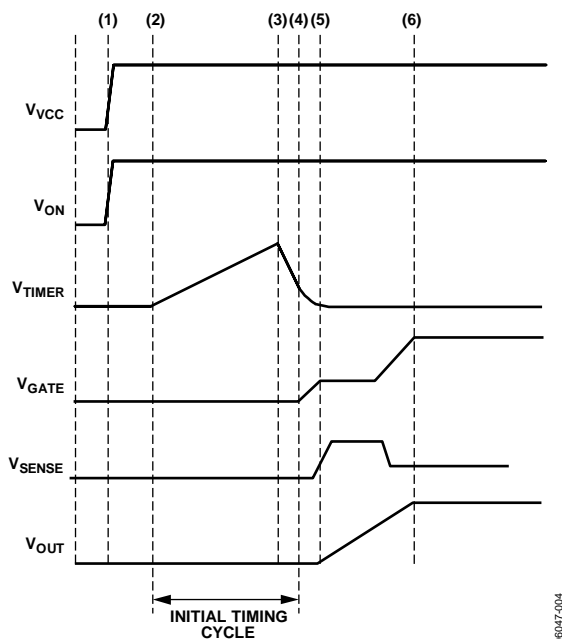

Figure 32. Startup (ON Asserts as Power Is Applied)
When VCC is first connected to the backplane supply, the internal supply (Time Point (1) in Figure 32) of the ADM1177 must be charged up. A very short time later (significantly less than 1 ms), the internal supply is fully up and, because the undervoltage lockout voltage has been exceeded at VCC, the device comes out of reset. During this first short reset period, the GATE pin is held down with a 25 mA pull-down current, and the TIMER pin is pulled down with a 100 μA current sink.
When the initial timing cycle terminates, the device is ready to start a hot swap operation (assuming the ON pin is asserted). In the example shown in Figure 32, the ON pin is asserted at the same time that VCC is applied, so the hot swap operation starts immediately after Time Point (4).